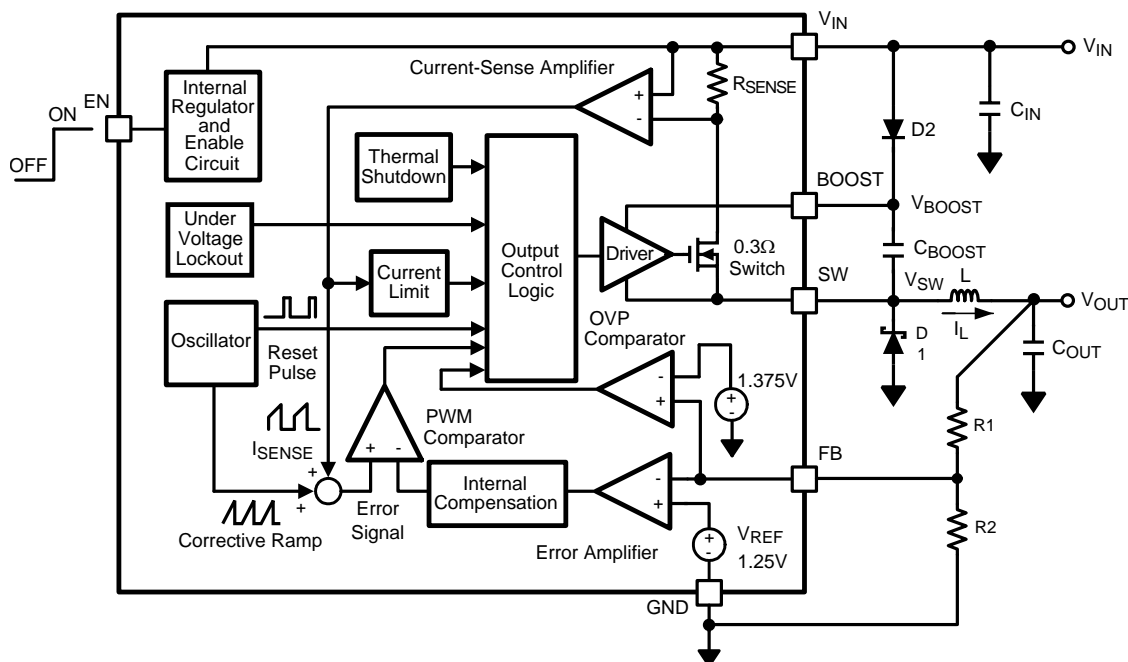
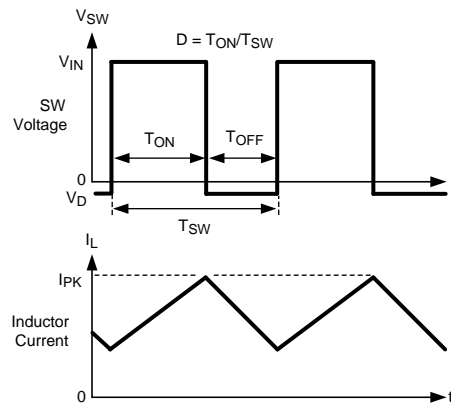

Figure 19.
Figure 20. LMR12007 Waveforms of SW Pin Voltage and Inductor Current
The following operating description of the LMR12007 will refer to the Simplified Block Diagram (Figure 19) and to the waveforms in Figure 20. The LMR12007 supplies a regulated output voltage by switching the internal NMOS control switch at constant frequency and variable duty cycle. A switching cycle begins at the falling edge of the reset pulse generated by the internal oscillator. When this pulse goes low, the output control logic turns on the internal NMOS control switch. During this on-time, the SW pin voltage (V_{SW}) swings up to approximately V_{IN} , and the inductor current (I_L) increases with a linear slope. I_L is measured by the current-sense amplifier, which generates an output proportional to the switch current. The sense signal is summed with the regulator's corrective ramp and compared to the error amplifier's output, which is proportional to the difference between the feedback voltage and V_{REF} . When the PWM comparator output goes high, the output switch turns off until the next switching cycle begins. During the switch off-time, inductor current discharges through Schottky diode D1, which forces the SW pin to swing below ground by the forward voltage (V_D) of the catch diode. The regulator loop adjusts the duty cycle (D) to maintain a constant output voltage.
In the Simplified Block Diagram of Figure 19, capacitor C_{BOOST} and diode D2 supply the gate-drive current for the NMOS switch. Capacitor C_{BOOST} is charged via diode D2 by V_{IN} . During a normal switching cycle, when the internal NMOS control switch is off (T_{OFF}) (refer to Figure 20), V_{BOOST} equals V_{IN} minus the forward voltage of D2 (V_{FD2}), during which the current in the inductor (L) forward biases the Schottky diode D1 (V_{FD1}). Therefore the voltage stored across C_{BOOST} is